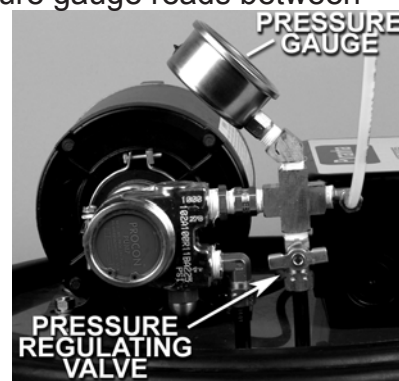

Figure 7 – Top of Drum Showing Pressure Gauge and Pressure Regulating Valve
22. Turn the pressure regulating valve clockwise until the pressure gauge reads between 180 and 200 PSI (figure 7) and all nozzles are spraying a fine, even mist. Check again for any leaks at the tubing connections. NOTE: The system works best at 185-195 PSI and must not be set below 175 PSI or over 200 PSI. **DO NOT OPERATE SYSTEM WITH VALVE CLOSED!**